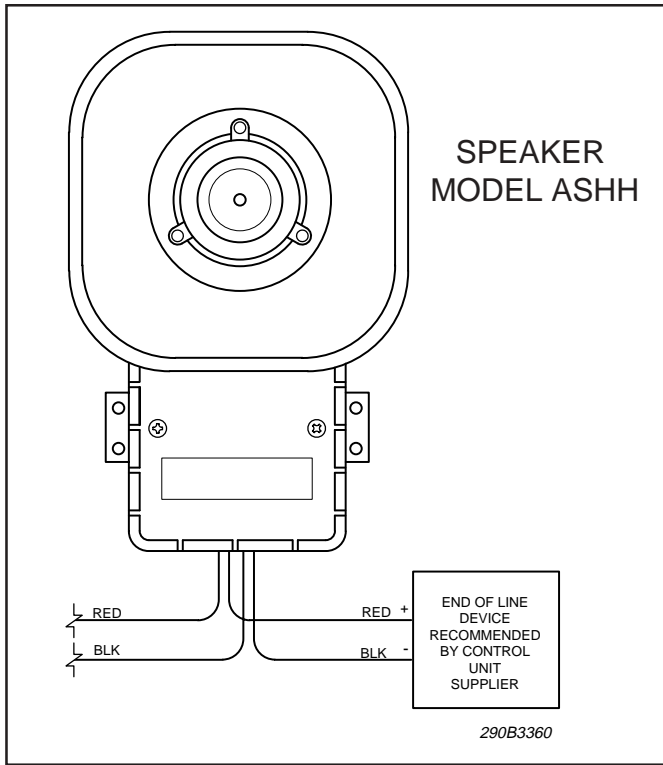

Figure 2. Typical Tone Card Installation Wiring.
a. See figure 2. Connect the device's red (+) leads to the power source positive (+) lead. Connect the device's black (-) leads to the power source negative (-) lead.